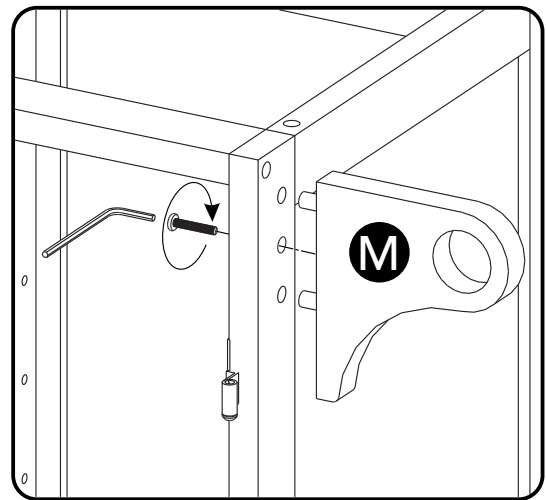

Figure 4
Attach Arm Handles (M) to unit with Head Cap Bolts. (See Figure 4)